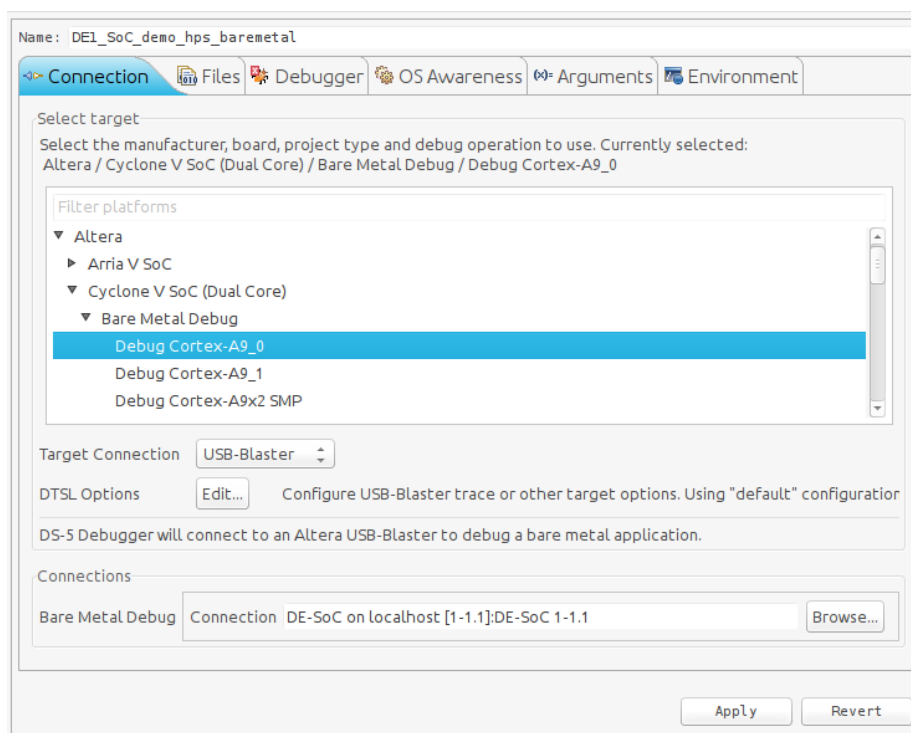

Figure 8-30. Debug Configuratoron “Connection” Tab
- d. You should have something similar to Figure 8-30.